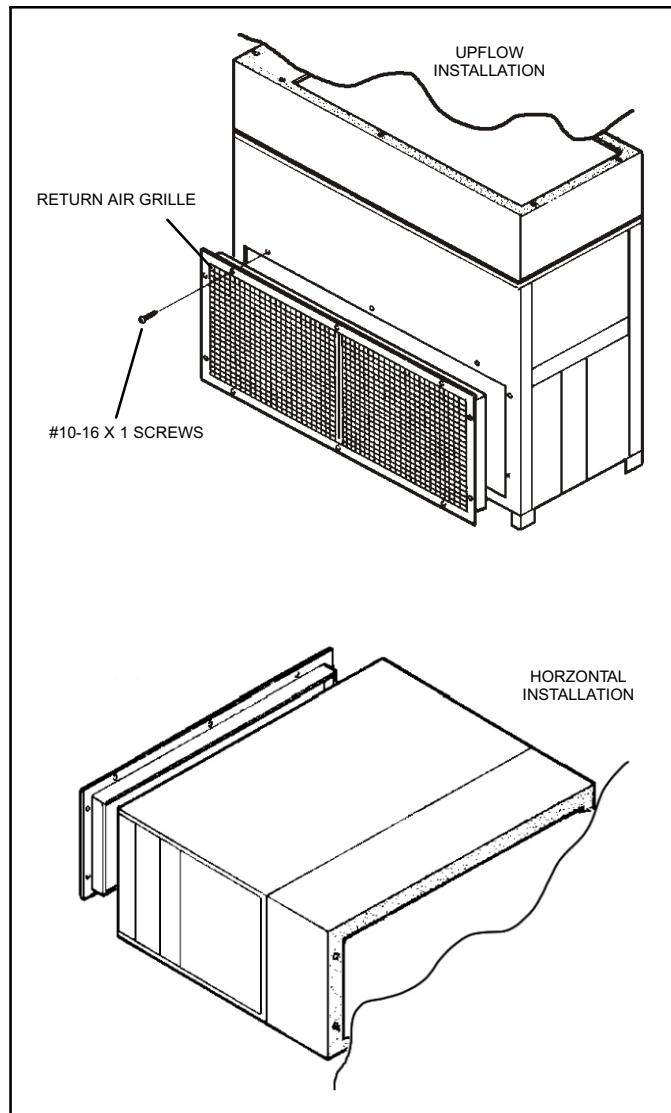

Figure 1. Typical Return Air Grille Installation
1. Center grille over return air opening as illustrated in figure 1.